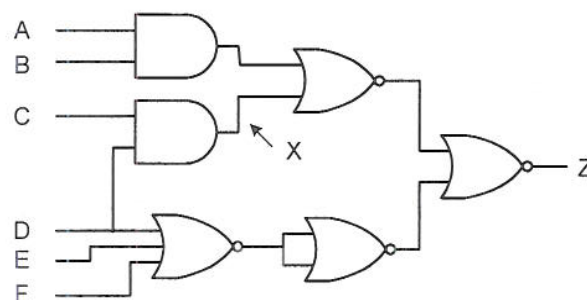

Figure 6.2
- c) Consider the circuit shown in *Figure 6.2*. Explain why a stuck-at-0 fault at node X is undetectable.